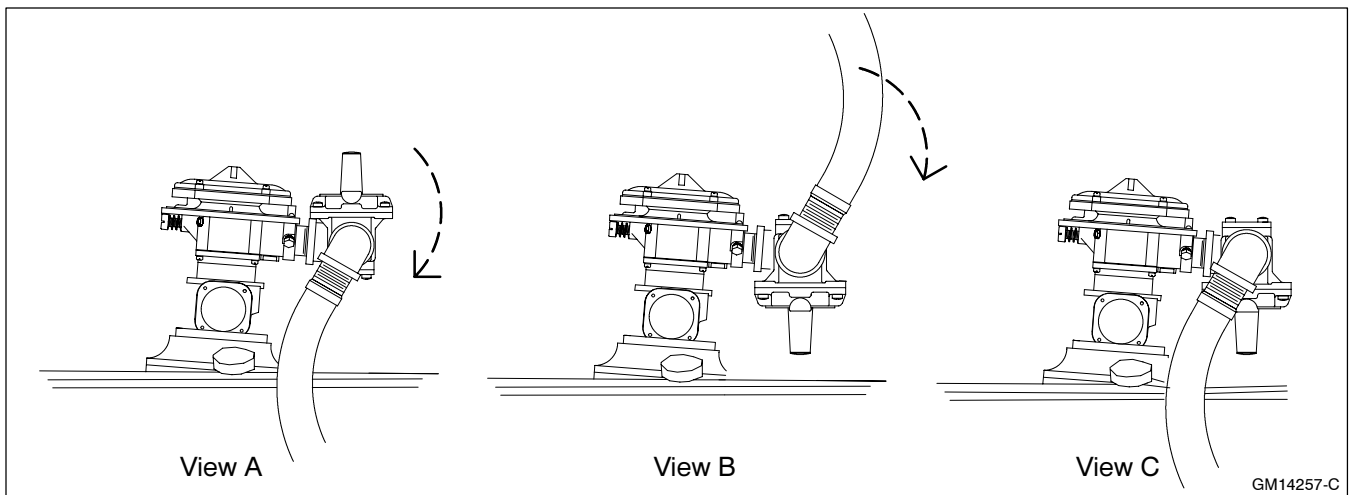

Figure 7 Fuel Regulator and Fuel Line Rotation Views for Natural Gas to LP Gas Vapor Conversion
- 3.5.1 See Figure 7, View A for natural gas configuration.
- 3.5.2 Rotate the *fuel regulator and fuel line* 180° clockwise. See Figure 7, View B.
- 3.5.3 Rotate the *fuel line elbow* an additional 180° clockwise. See Figure 7, View C.